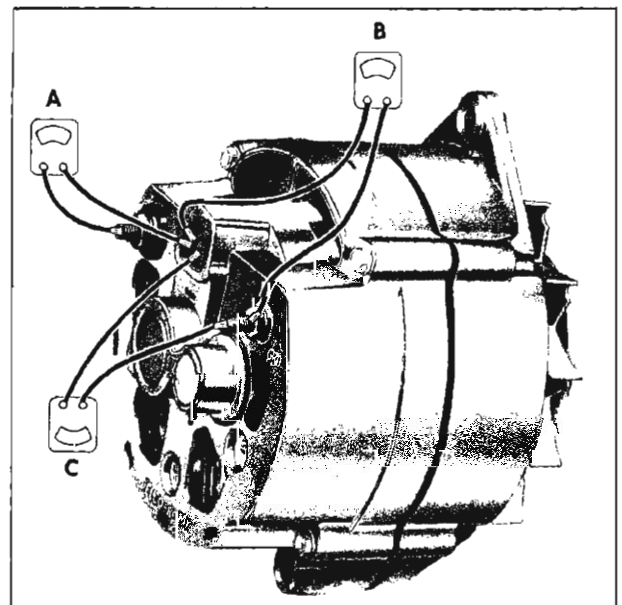

Fig. 8—Diode Check
3. Diode Check (Refer to Figure 8):